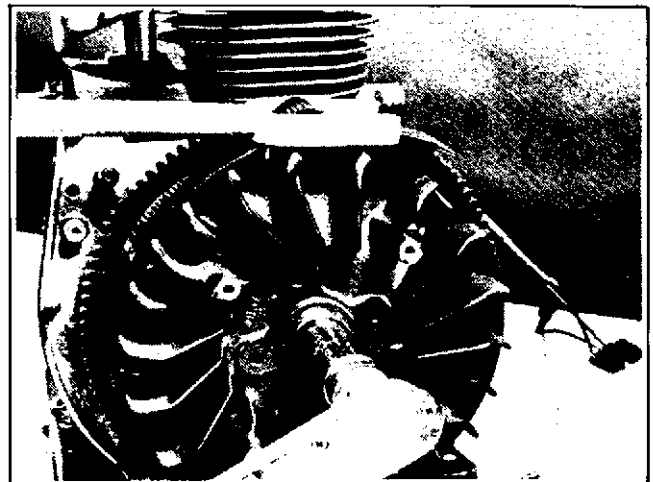

Figure 8-18. Torquing Flywheel
3. Use a torque wrench and tighten the flywheel retaining nut to 60-70 ft. lbs. Use a strap wrench to hold flywheel while torquing nut (see Figure 8-18).